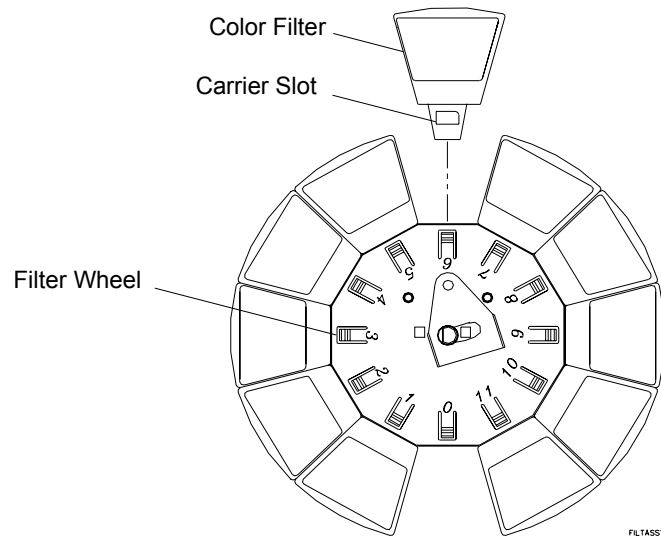

Figure 2-6: Color Filter Replacement
- Step 4. Using fingers, pull color filter out of filter wheel assembly (**Figure 2-6**).